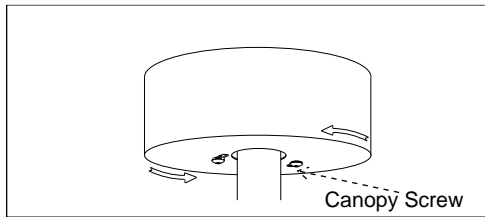

Fig. 10
Step 2. As shown in Fig. 10, push the canopy (C) upwards so that the canopy screw passes through the hole in the canopy (C), then rotate the canopy (C) so that it is caught by the canopy screw and does not fall down.